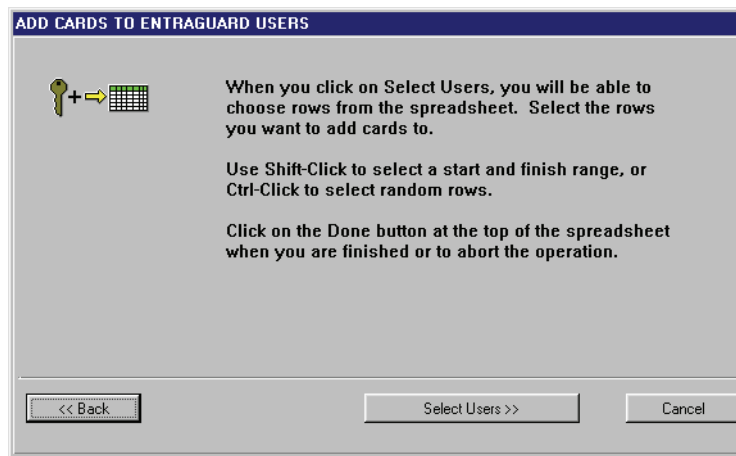

Figure 10-47: Add Cards To EntraGuard Users Window
1. Once you have made your enrollment selections and clicked on the  button, the Add Cards To EntraGuard Users window will appear (see Figure 10-47).